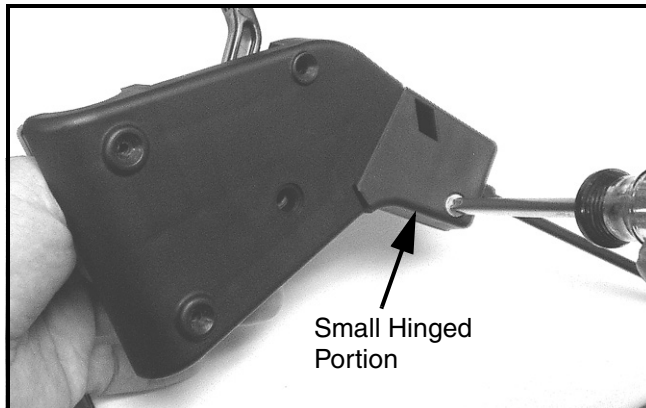

FIGURE 3
9. Attach the small hinged portion of the new Lower Control Cover, Item 3, to the upper control cover with one (1) Screw, Item 2. Tighten screw. See Figure 3.